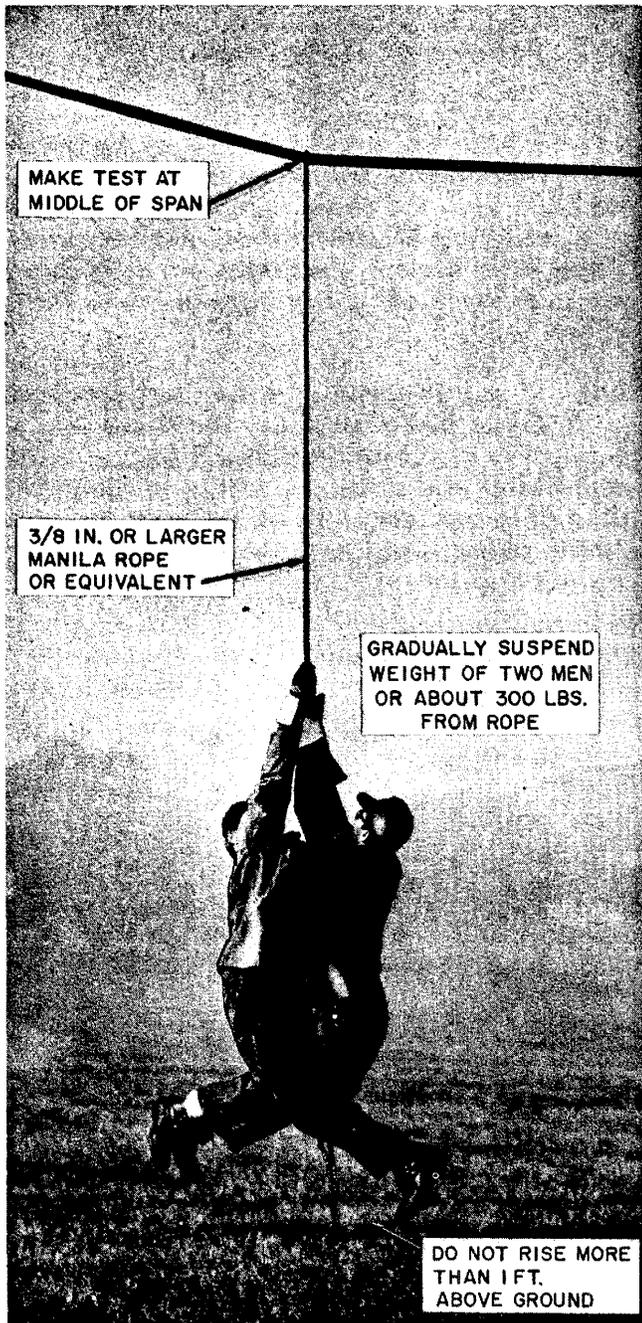

Fig. 2—Testing Strand Prior to Placing Aerial Platform or Cable Car
(3) Two workmen should grasp the two ends of the handline and gradually apply their full weight to the strand and gradually lift themselves slowly off the ground (Fig. 2).